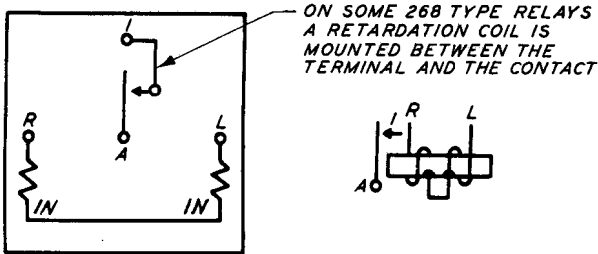

Fig. 38 – Winding and Spring Terminal Arrangement as Viewed From the Rear (terminal side) — 207-, 213-, and 268-Type Relays
2.49 The armature (frame terminal) is designated A and the front contact or make contact screw is designated 1. The winding terminals are designated as shown in Fig. 38.